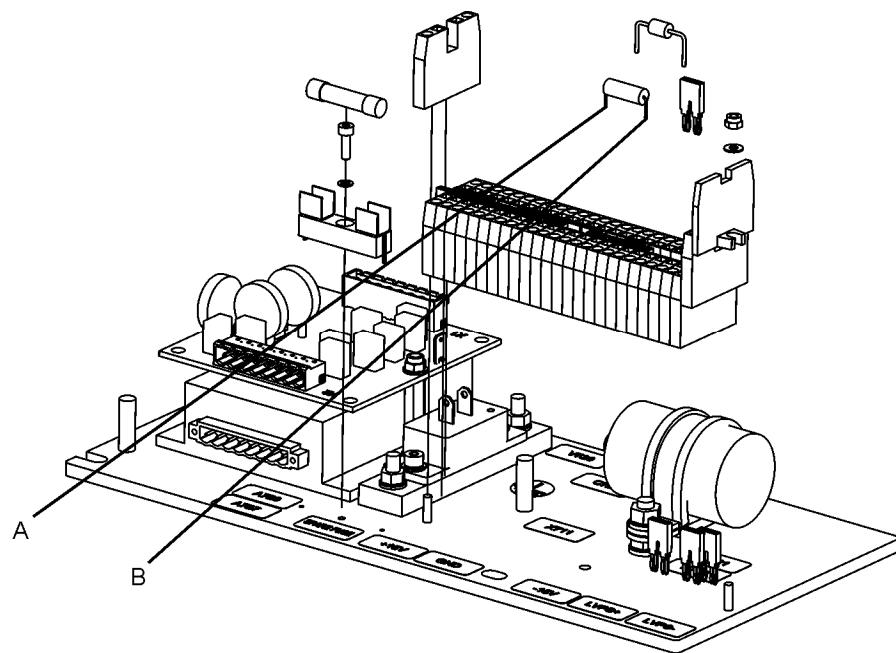
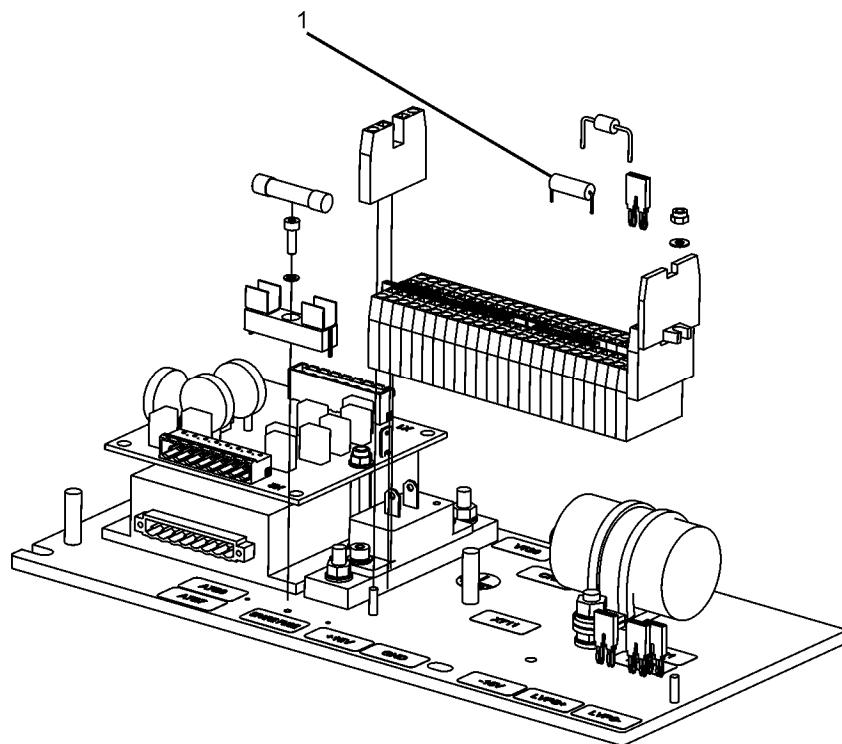

Figure 5-61: R720 Electrical Connections
Figure 5-62: R720 Anchor Points
5. Remove R720 (see Figure 5-61 and Figure 5-62). R720 (1) is mounted directly on the X711 terminal block between pins 20 and 21. To remove, use a small head screwdriver to push downward on the release catch next to each pin. It may be necessary to bend the resistor to remove it.
2. Insert R720 (see Figure 5-61). Orient the resistor with the gold band on the left and press firmly down on the left leg of the resistor into the slot 20 until the latching mechanism is engaged. Do the same for the other end of the resistor in pin 21. It may be necessary to bend the resistor during insertion. If so, straighten the resistor once it is in place.